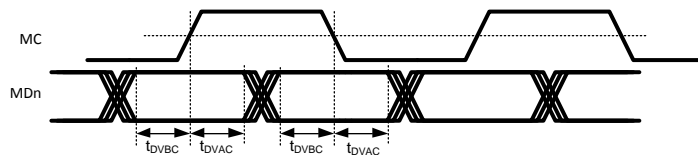

Figure 2. Serial Data Valid
| t _{DVBC} | Serial Data Valid before Clock Edge | SER Data Pulse Width Figure 2, (2) (3) | 0.38 | | | UI |